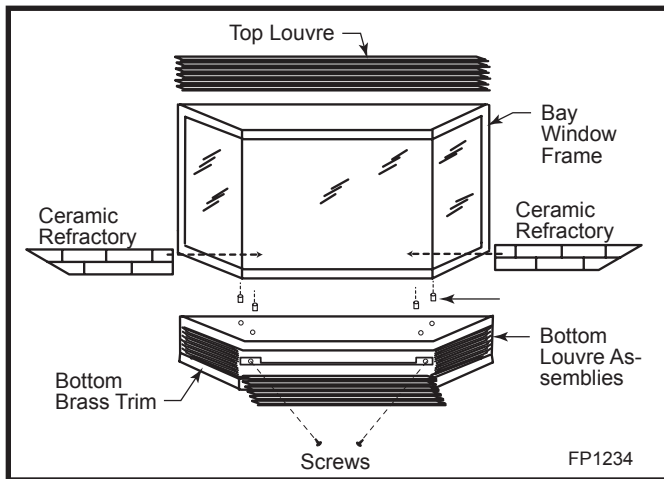

Fig. 57 Bay window installation.
4. Place the 2 pieces of ceramic refractory along the base of the bay window. (Fig. 57)